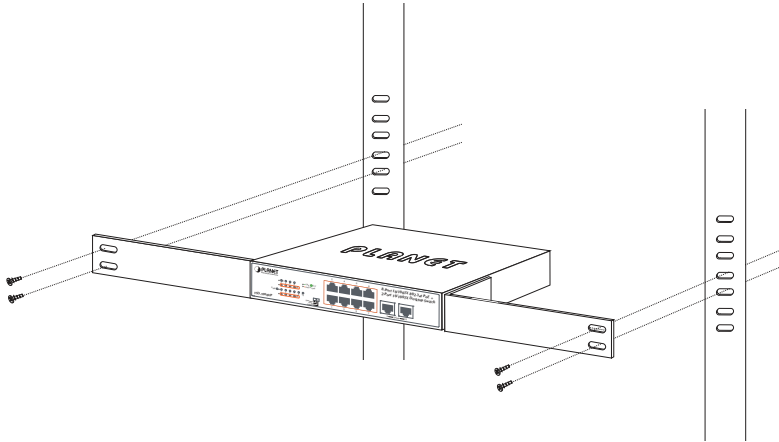

Figure 3-3: Mounting the FSD-1008HP in a Rack
Step 5: After the brackets are attached to the FSD-1008HP, use suitable screws to securely attach the brackets to the rack, as shown in Figure 3-3.